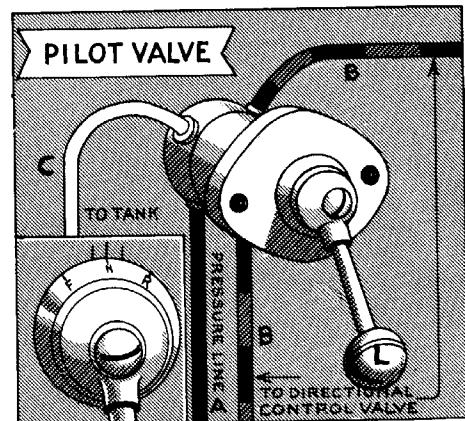

FIG. 53
The pilot valve (Fig. 53) is located under the ram. It is actually a small valve used to actuate the larger reverse valve which controls the movement of the ram. Although it may be operated manually by shifting lever (L) whenever the ram travel must be reversed quickly, it is usually operated mechanically by the two trip dogs on the ram. These govern both the length of the stroke and its position relative to the work.
The pilot valve (Fig. 53) exercises its control over the reverse valve by means of four small pipes which connect it with the hydraulic system. One leads to the high-pressure line (A), one each to the right and left ends (B) of the reverse valve to permit dropping the pressure on one side or the other of its piston, and one (C) to the reservoir to carry of the small amount of oil released from the reverse valve.